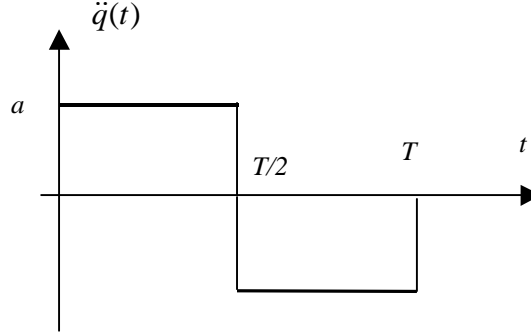

Figure 5
- Q.5 (a) Consider a single link prismatic robot with mass  $m = 20 \text{ mg}$ . The robot is motionless at  $q = -1 \text{ m}$ , and is required to move to  $q = 1 \text{ m}$  in 2 seconds and stop there. Assume the joint motion is performed with constant accelerations as shown in Figure 5.